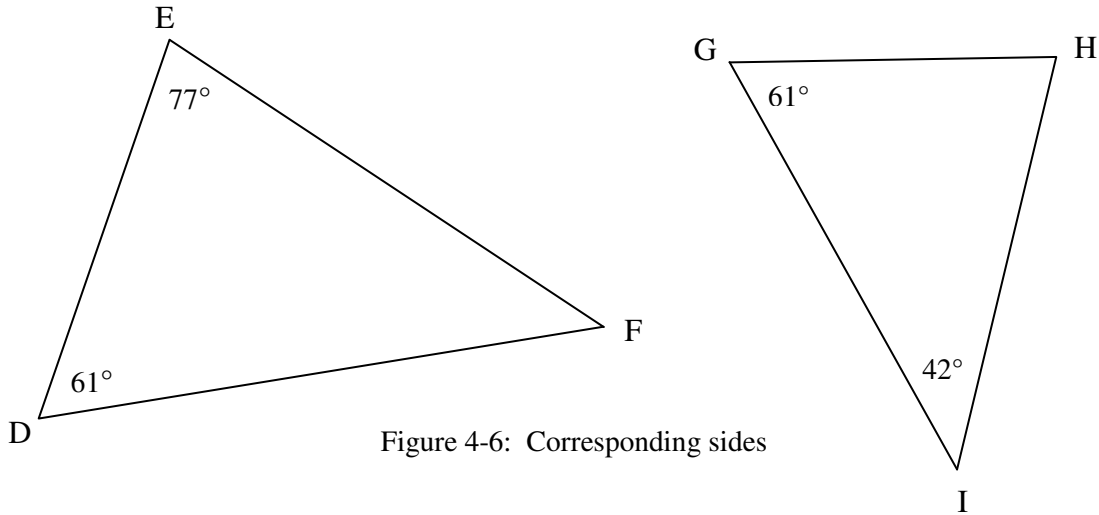

Figure 4-6: Corresponding sides
1. See Figure 4-6 below. Are these two triangles similar? Explain your answer.